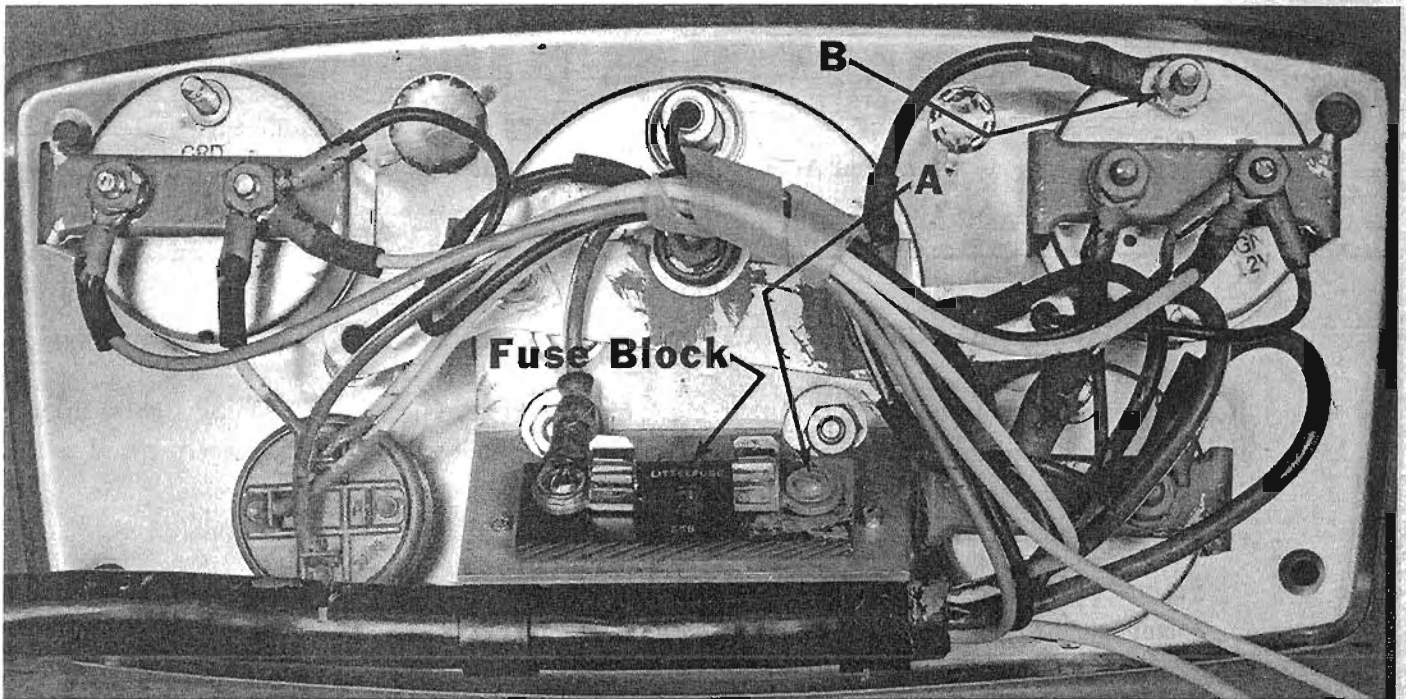

Figure 3
- a. Connect positive (+) accessory lead to unused terminal screw on fuse block located on back of panel. ("A" in Figure 3 or 4)
- c. Connect accessory ground (-) wire to stud on water temperature gauge marked "GRD". ("B" in Figure 3)